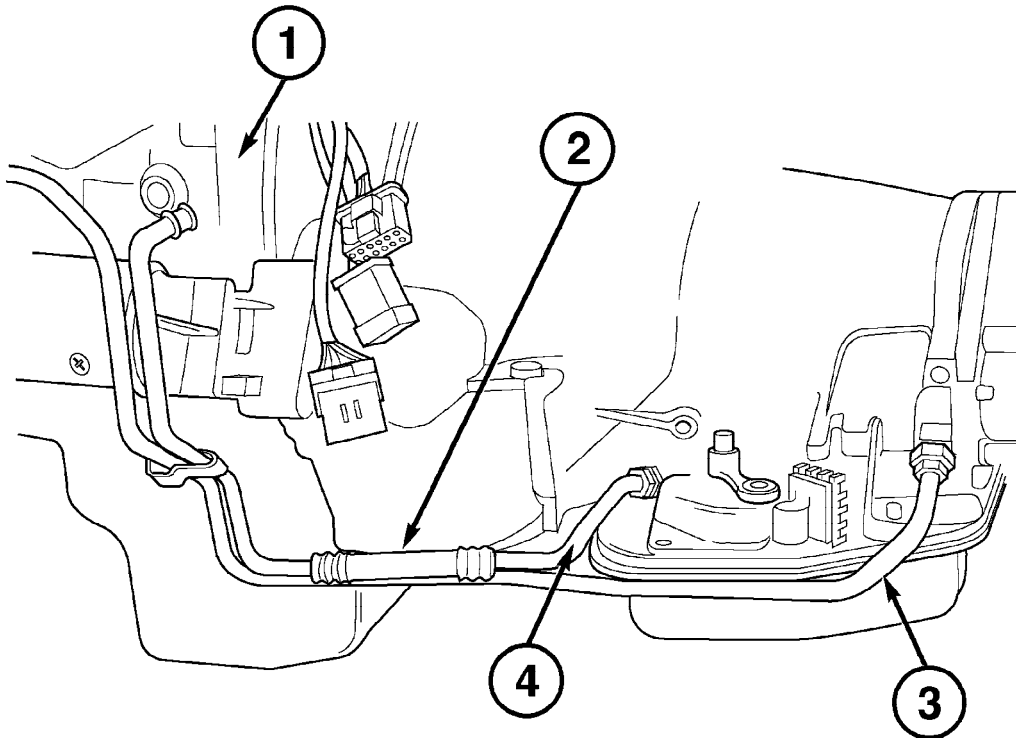

FIGURE 2
6. Check the alignment of the new cooler line (Figure 2). Make sure that the hose portion of the line is not contorted or twisted as this can cause the hose to fail.